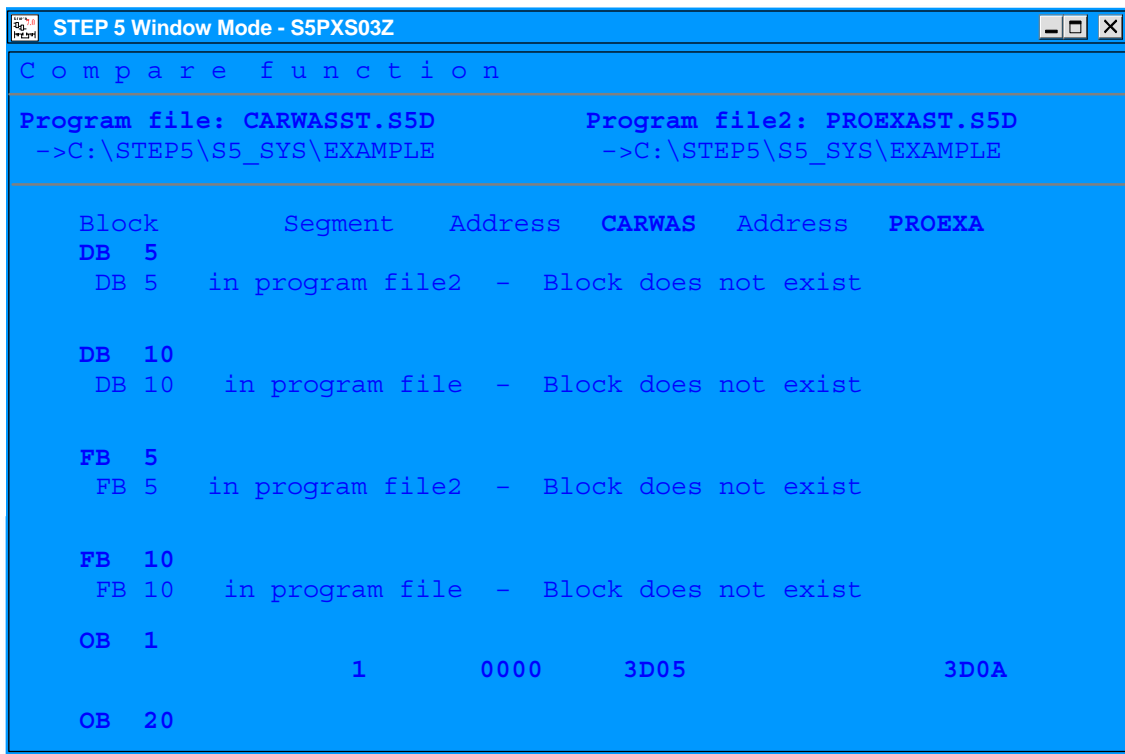

Figure 25-8 Block Comparison between CARWAS and PROEXA
4. Repeat the block comparison by marking *all blocks* (A) in the job box.
STEP 5 displays the comparisons as shown in *Figure 25-8*. Non-existent blocks are indicated by the message `Block does not exist`. You can also recognize that different FBs are called in OB1.